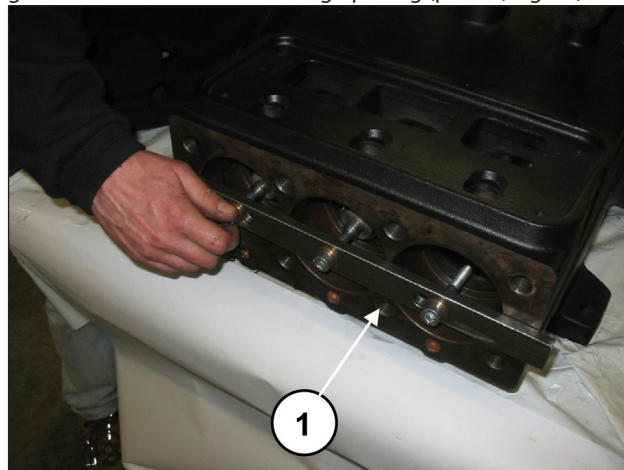
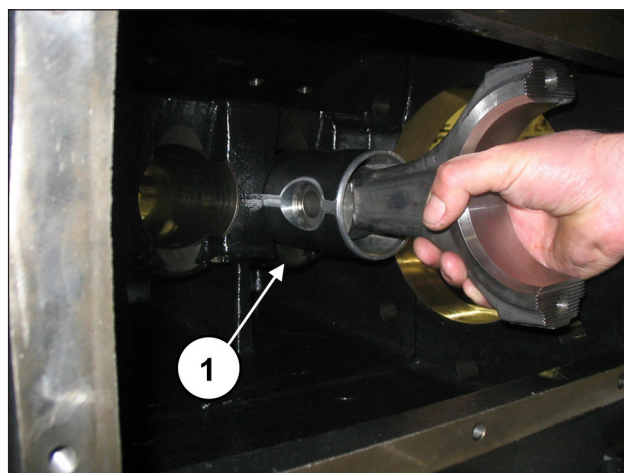
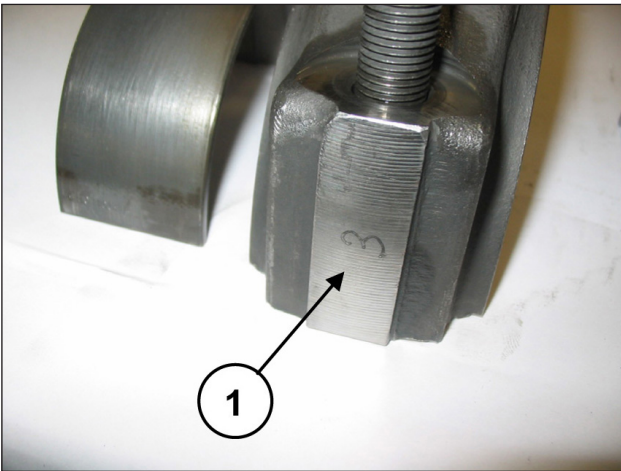

Fig. 31
Fig. 32
Fig. 33
Unscrew the screws with tool code 27566200 to unlock the con-rods (pos. ①, Fig. 31) and then extract the con-rod-piston guide units from the back casing opening (pos. ①, Fig. 32).
Couple the half supports to the previously disassembled caps, referring to the numbering (pos. ①, Fig. 33).
Separate the caps from the half supports. Proper coupling can be verified by the numbering on the side (pos. ①, Fig. 33). After having checked casing cleaning, proceed with assembly of half support-piston guide unit inside casing rods (pos. ①, Fig. 32).
Block the three units with the use of special tool code 27566200 (pos. ①, Fig. 31).
Remove the tool for blocking the con-rods code 27566200 (pos. ①, Fig. 31).